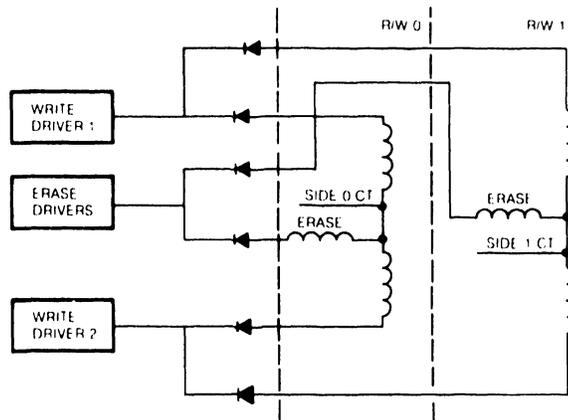

FIGURE 31. READ/WRITE HEADS
1.5.1 Each of the read/write heads contain two coils. Two read/write coils are wound on a single core, center tapped and one erase coil is wound on a yoke that spans the track being written. The read/write and erase coils are connected as shown in Figure 31
1.7.2 Since a pulse occurs at least once every $4\mu\text{s}$ and when data bits are present once every $2\mu\text{s}$, the frequency of the read data varies. The read signal amplitude decreases as the frequency increases. Note the signals on Figure 31. The differential amplifier will amplify the read signals to even levels and make square waves out of the read signals (sine waves).